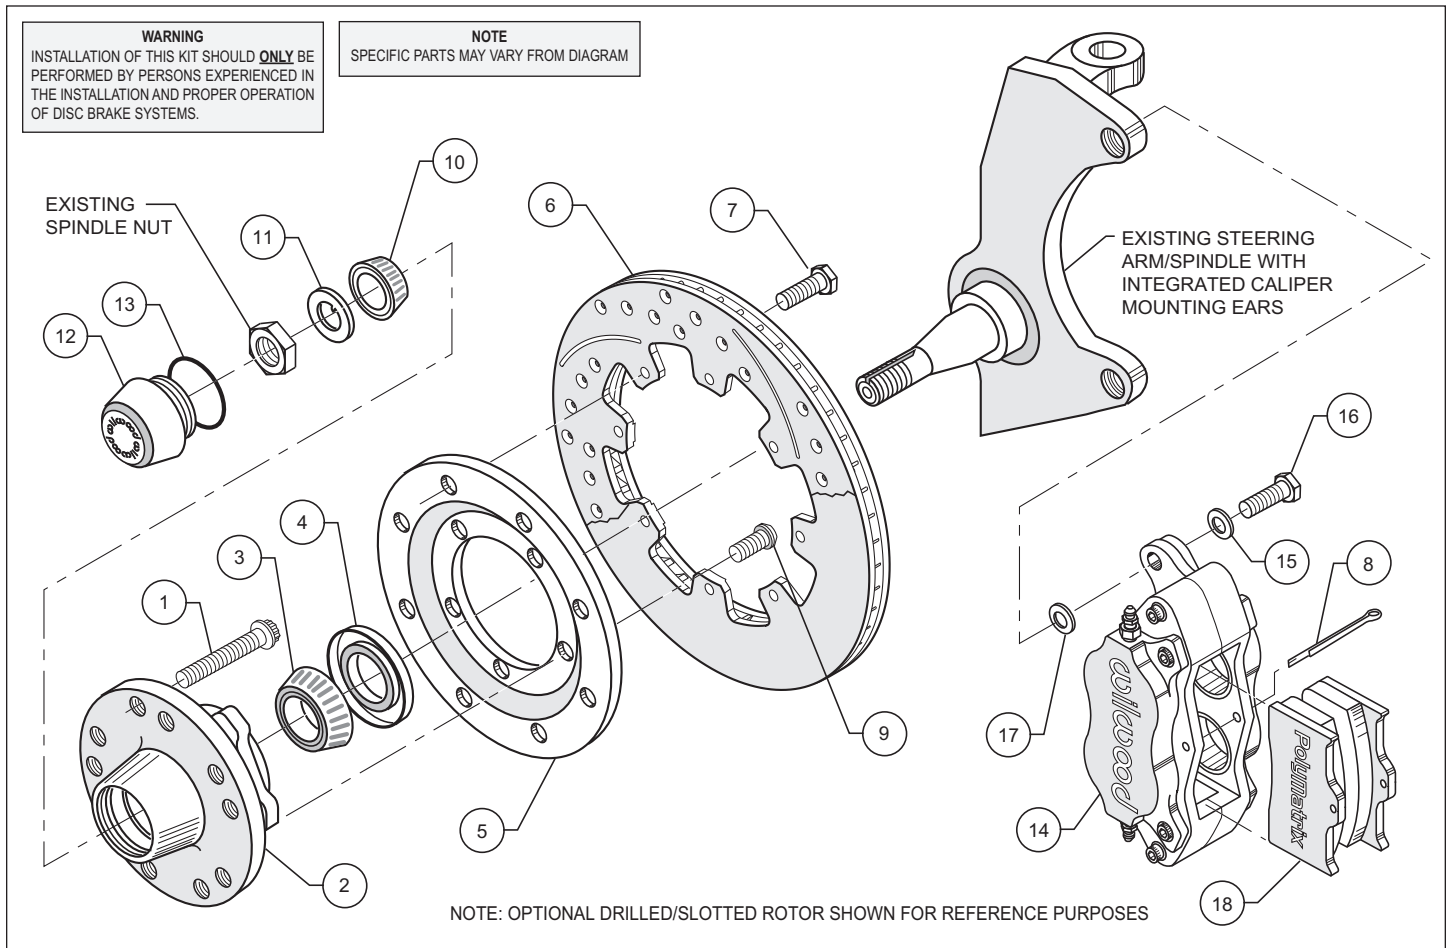
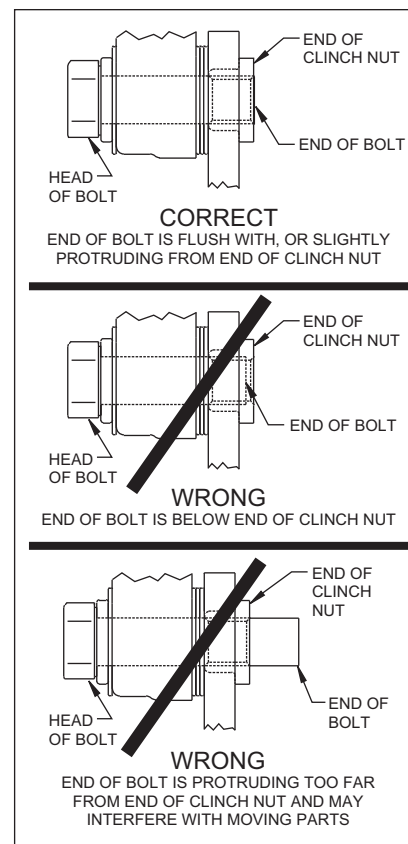

Figure 1. Typical Installation Configuration
Figure 3.
- Mount the adapter/rotor assembly (5/6) to the hub (2) using bolts (9) (finger tight), as shown in Figure 1. Using an alternating sequence, remove bolts one at a time, apply red *Loctite*® 271 to the threads, and torque to 55 ft-lb.
- Pack the small outer bearing cone (10) with high temperature disc brake bearing grease and install into front of hub (2). Slide the hub/rotor assembly (2 and 6) with outer bearing cone (10) onto the spindle. Secure using spindle washer (11), stock adjusting nut and nut locking device. Adjust bearings per Original Equipment Manufacturer (OEM) specifications.
- Install the dust cap (12) onto the hub (2). Friction created by the o-ring (13) on the dust cap (12) keeps it from unscrewing. The O.D. of the existing spindle washer may be larger than the I.D. of the dust cap (12) not allowing it to seat against the hub face. Some grinding on the washer O.D. may be necessary to clear the I.D. of the dust cap (12).
- Mount the caliper (14) to the spindle utilizing the existing holes provided in the mounting ears using washers (15), and bolts (16). Finger tighten. View the rotor (6) through the top opening of the caliper (14). The rotor (4) should be aligned in the center of the caliper (14). If not, adjust the caliper (14) by using 0.032 inch thick shims (17) placed between the caliper mounting ears and the caliper (14). Finger tighten and recheck alignment. Add as many shim washers (17) as necessary to achieve the correct alignment. **NOTE:** The end of the bolt must be flush with or slightly protruding from the head of the clinch nut. See Figure 3. Place spare shims (17) between washer and caliper mounting ear to achieve the proper mounting fastener configuration. Always use the same amount of shims on both the top and bottom caliper mounting bolts (16). Apply red *Loctite*® 271 to bolt threads (16) and torque to 40 ft-lb. Safety wire caliper bolts (16).